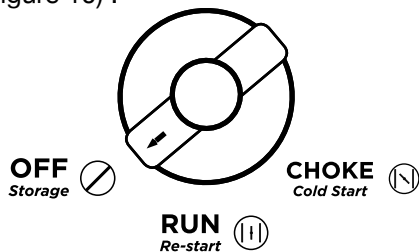

Figure 10: Turn Engine/Fuel Switch to OFF Position
3. Move the engine control switch to the **OFF** position (see Figure 10) .
If there is an emergency and the inverter must be stopped quickly, move the engine control switch to the **OFF** position immediately (see Figure 10).